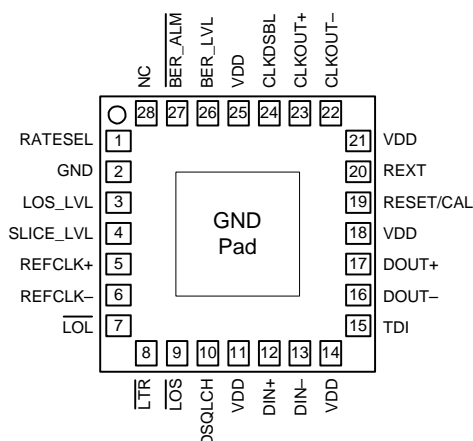
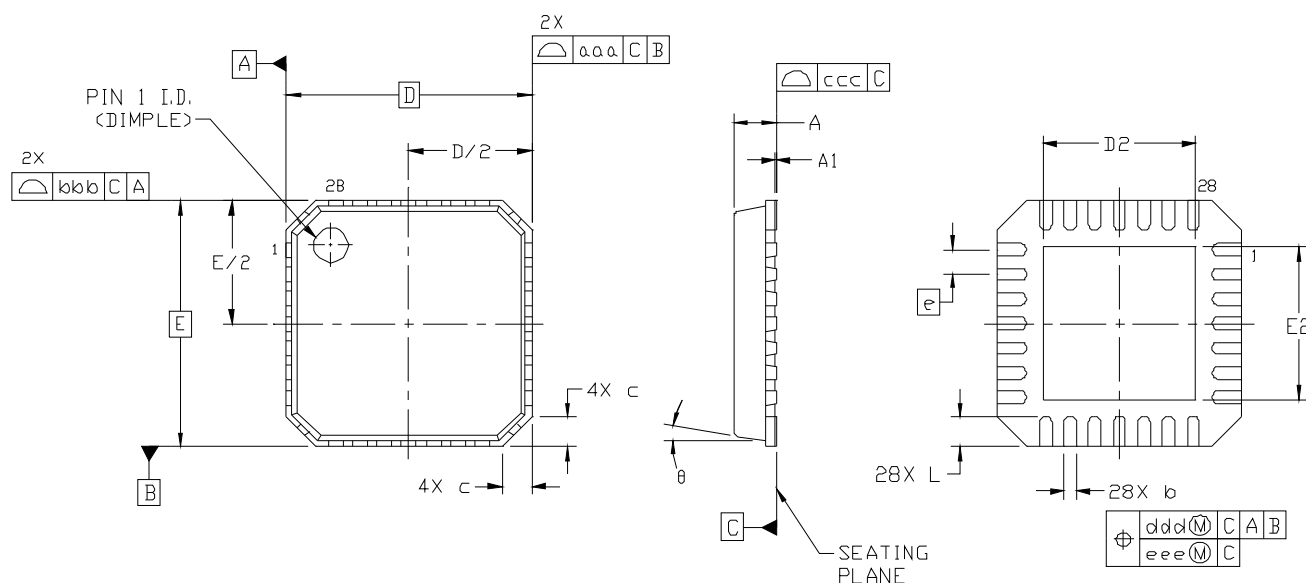

Figure 15. Si5013 Pin Configuration
Figure 16. 28-Lead Quad Flat No-Lead (QFN)
The Si5013 uses the GND pad on the bottom of the 28-pin micro leaded package (QFN) for device ground. This pad should be connected directly to the analog supply ground. See Figure 15 on page 19 and Figure 16 on page 23 for the ground (GND) pad location.
Figure 16 illustrates the package details for the Si5013. Table 9 lists the values for the dimensions shown in the illustration. For a pad layout recommendation please contact Silicon Laboratories.
- Updated Figure 16, "28-Lead Quad Flat No-Lead (QFN)," on page 23.